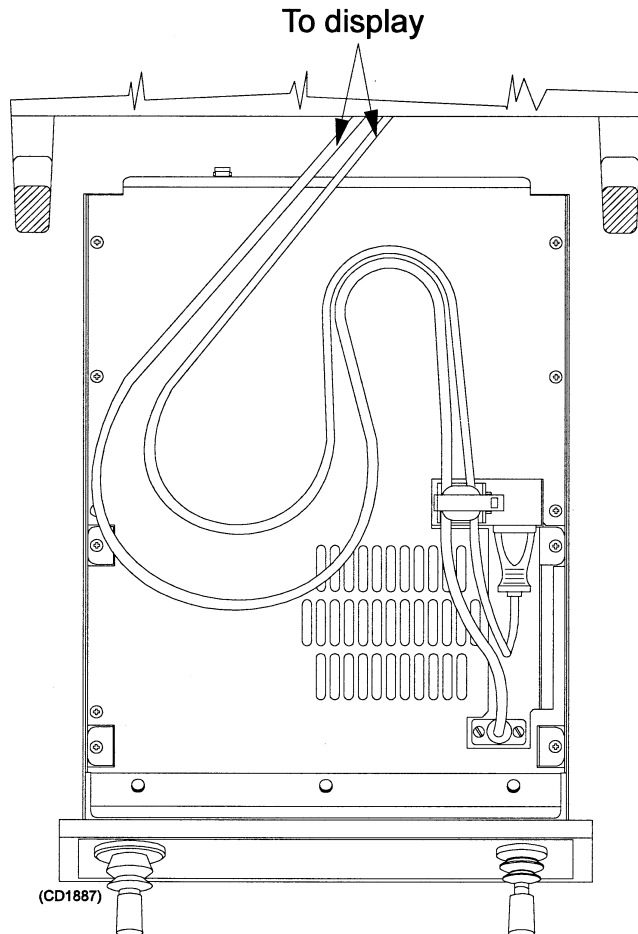

Figure 3 Mounting the electronic drawer unit
- Refer to figure 3 to reconnect the two display cables.
- Arrange the two display cables as shown in figure 3, and guide the drawer unit gently into the cabinet. Be aware of the two guiding pins at the rear of the cabinet to match the two holes at the rear of the drawer unit. Fasten the drawer unit with the four front fastening screws.